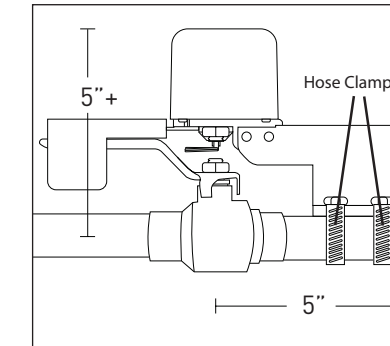

Figure 3
The Water Main Shut-Off can be installed on any preexisting ½" to 1 ½" brass ball valve, at least 5" away from any walls or other obstructions. Examine Figure 3 and make sure there is enough room in your plumbing installation to accommodate the Shut-Off.
5. Loosely tighten the hose clamps around the pipe on the opposite side of the valve handle so it remains movable (fig 3.)